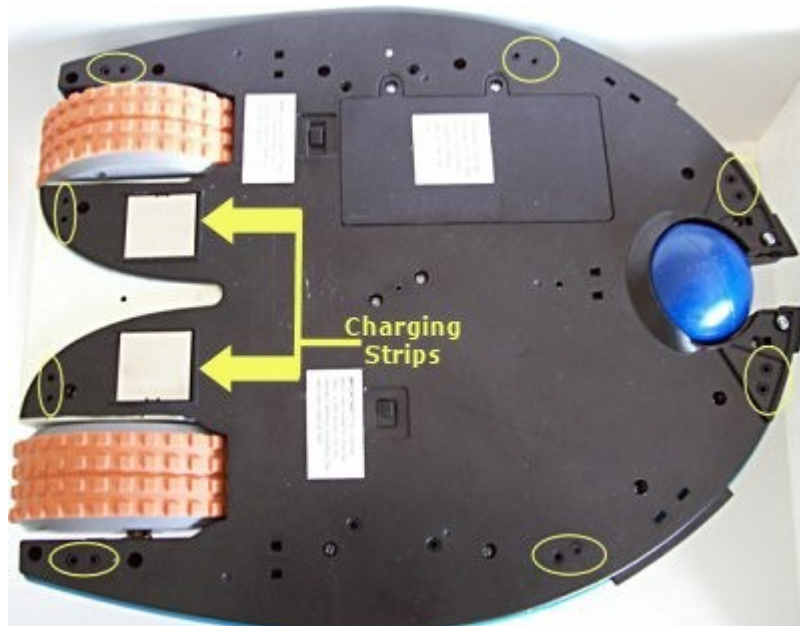

Figure 1
3. First clean off the underside. Clean the charging strips with a dry soft cloth. Note that some discoloration is normal. The charging strips are shown in figure 1 where the yellow arrows are pointing. Clean off the sensors that are circled in yellow in figure 1. To do this, take a rolled up corner of a tissue, insert into hole, and twist lightly a little. This helps knock loose dust and dirt. Do this for each sensor hole.